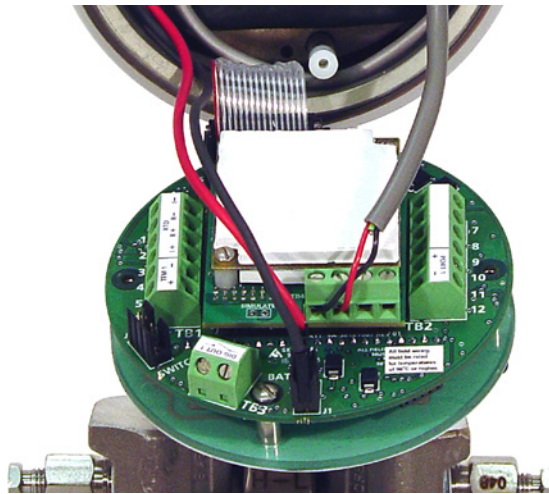

Figure C.9—Removal of the battery cable and fieldbus interface board cable
- Using a small standard blade screwdriver, remove the two #4-40 × 7/8-in. screws located to the right and left side of the display (Figure C.9).
- Disconnect the fieldbus input cable from terminal block TB4 on the fieldbus interface board (Figure C.9).
- Unplug the battery cable from connector J1 on the main board (Figure C.9).